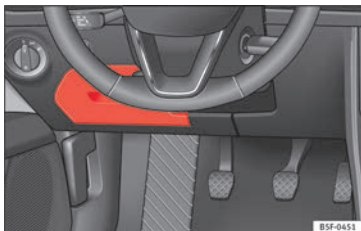

Fig. 101 On the driver-side dash panel: fuse box cover.
- *Opening*: fold the cover down »» **Fig. 101**.